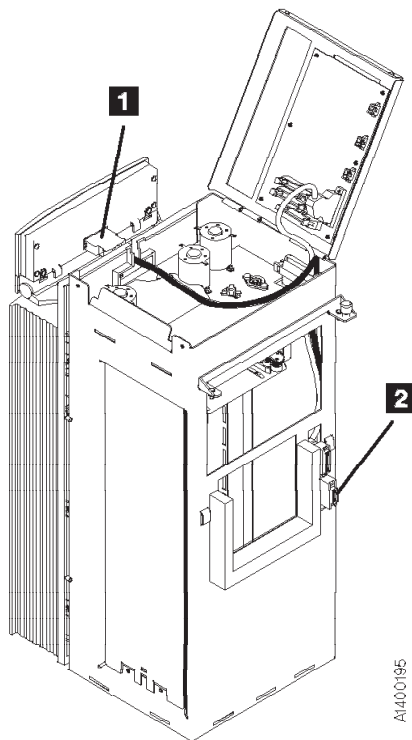

Figure 10-6. Operator/CE Panel Cable
5. See Figure 10-6. Disconnect the operator/CE panel cable connector from the panel **1**.